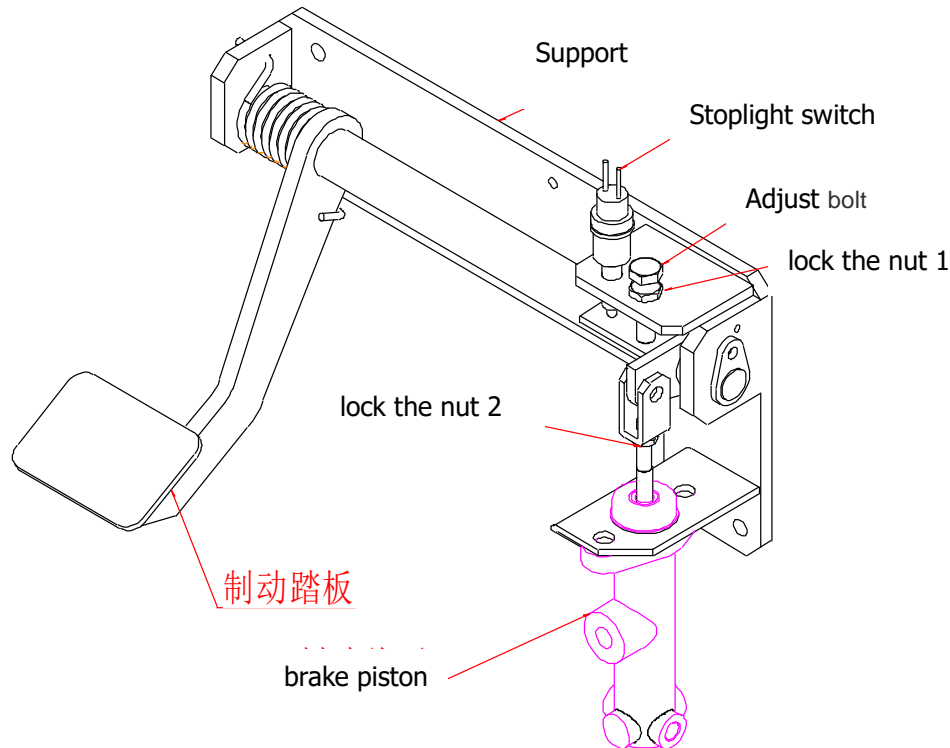

Figure 3.6
3.6.1 Brake pedal adjustment .see figure 3.6
3.6.2 Stoplight switch adjustment, see figure 3.6.